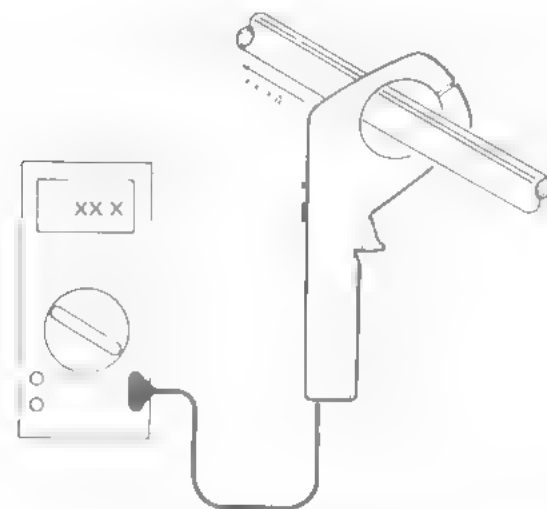

Figure 2-3. Measuring DC Current
6. Squeeze the jaw trigger and clamp the jaws around the conductor to be measured. Read the measured value in the voltmeter display. The jaws must be completely closed for a proper reading. Best accuracy is obtained when the conductor is centered within the jaw aperture. Figure 2-3 illustrates the correct way to measure dc current.